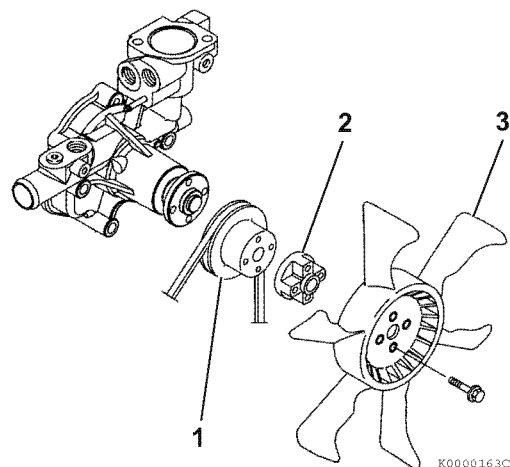

Figure 9-31
5. Reinstall the engine coolant pump V-pulley (1, **Figure 9-31**), spacer (2, **Figure 9-31**), engine cooling fan (3, **Figure 9-31**) and engine cooling fan guard (if equipped).